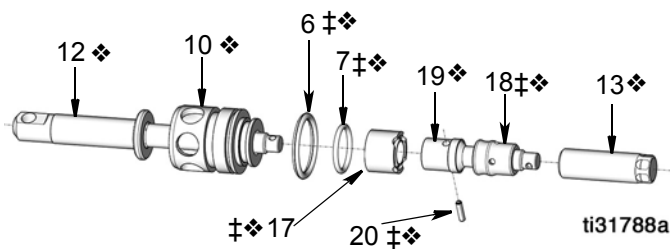

FIG. 21
5. Install intake seal (17‡♦) on the shovel rod (12♦) (FIG. 21).
7. Clean threads of piston rod (19♦) and alignment rod (13♦) with solvent to prepare it for thread locking compound (FIG. 21).
- It may be easier to assemble the two parts by clamping the piston rod in a vise. Take care when clamping the rod in vise to not over-tighten the vise around the rod which could damage the rod or scratch the outside surface. Clamp only on recessed surface of piston rod (19).
- If using a vise, to prevent the rod from rotating while torquing the two parts, insert a pin that is longer than the spring pin (20) through the pin holes.
9. Screw shovel rod (12♦) into piston rod (19♦). Tighten until pin holes in each rod (FIG. 21) align.
10. Install spring pin (20‡♦) through holes aligned in Step 6 (FIG. 21).
15. If the H-wiper seal (3‡♦) was removed in Pump Lower Disassembly, Step 7, page 15, lubricate new seal from kit and install it in pump base (2).